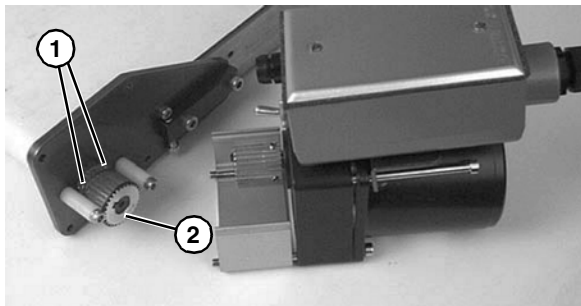

Figure 51
5. Loosen set screws (**Figure 51, item 1**) and remove driven pulley (**Figure 51, item 2**).